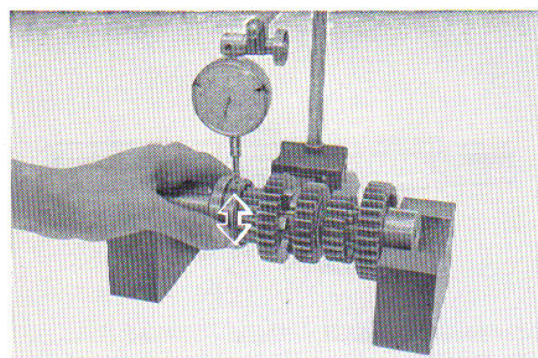

Fig. 3.113 Measuring bearing diametrical clearance
- ① Neutral stopper
- ② Shift drum stopper
- ③ Ball bearing
6. Double row ball bearing clearance (M, C) (Fig. 3.113)